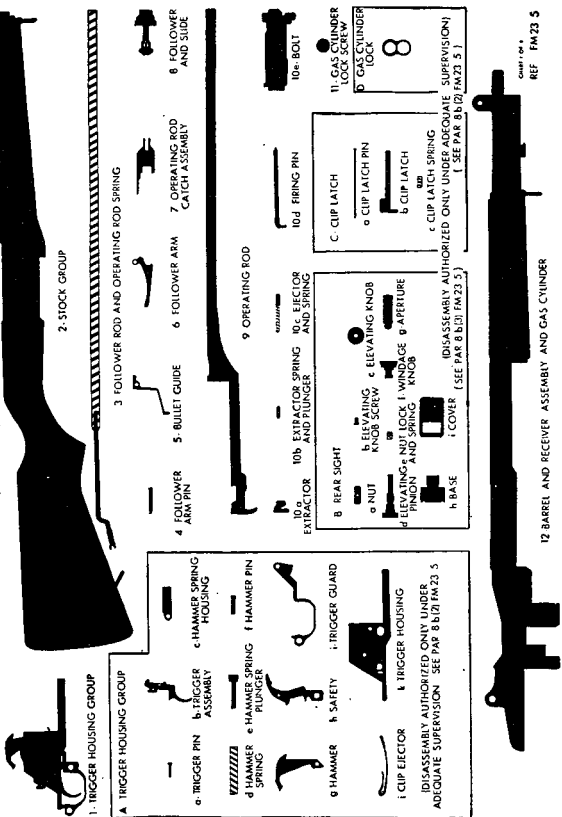

Figure 151. Graphic training aid 9-58.
- (1) Appropriate training films and film strips.
- (2) Graphic training aids. One such graphic training aid is shown in figure 151. This is a plastic disassembly mat used during instruction in mechanical training.